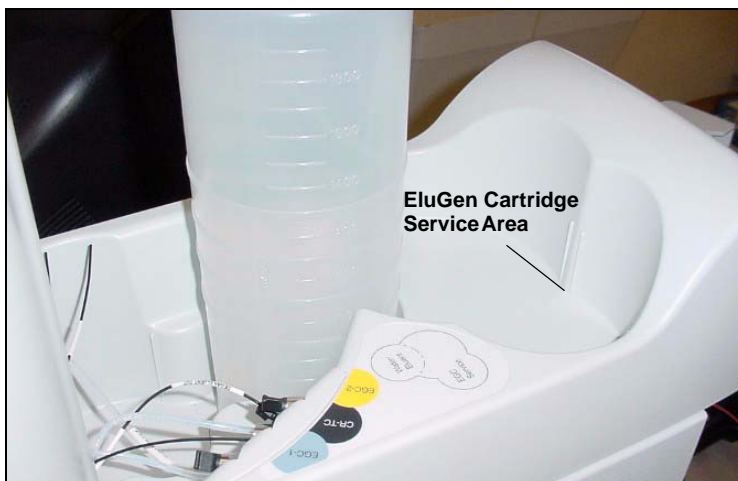
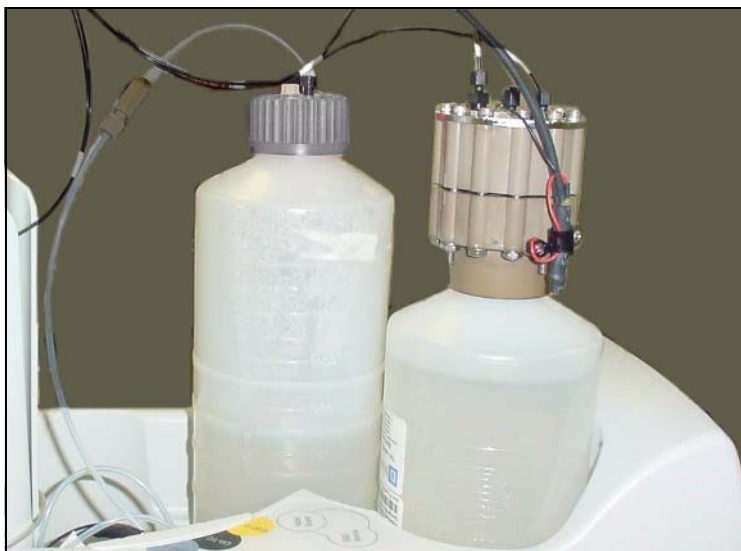

Figure 5-36. EluGen Cartridge Service Area
Figure 5-37. EluGen Cartridge in the Service Area
7. Turn the cartridge upside down and set it in the EluGen cartridge service area on top of the ICS-2100 (see Figure 5-36 and Figure 5-37).